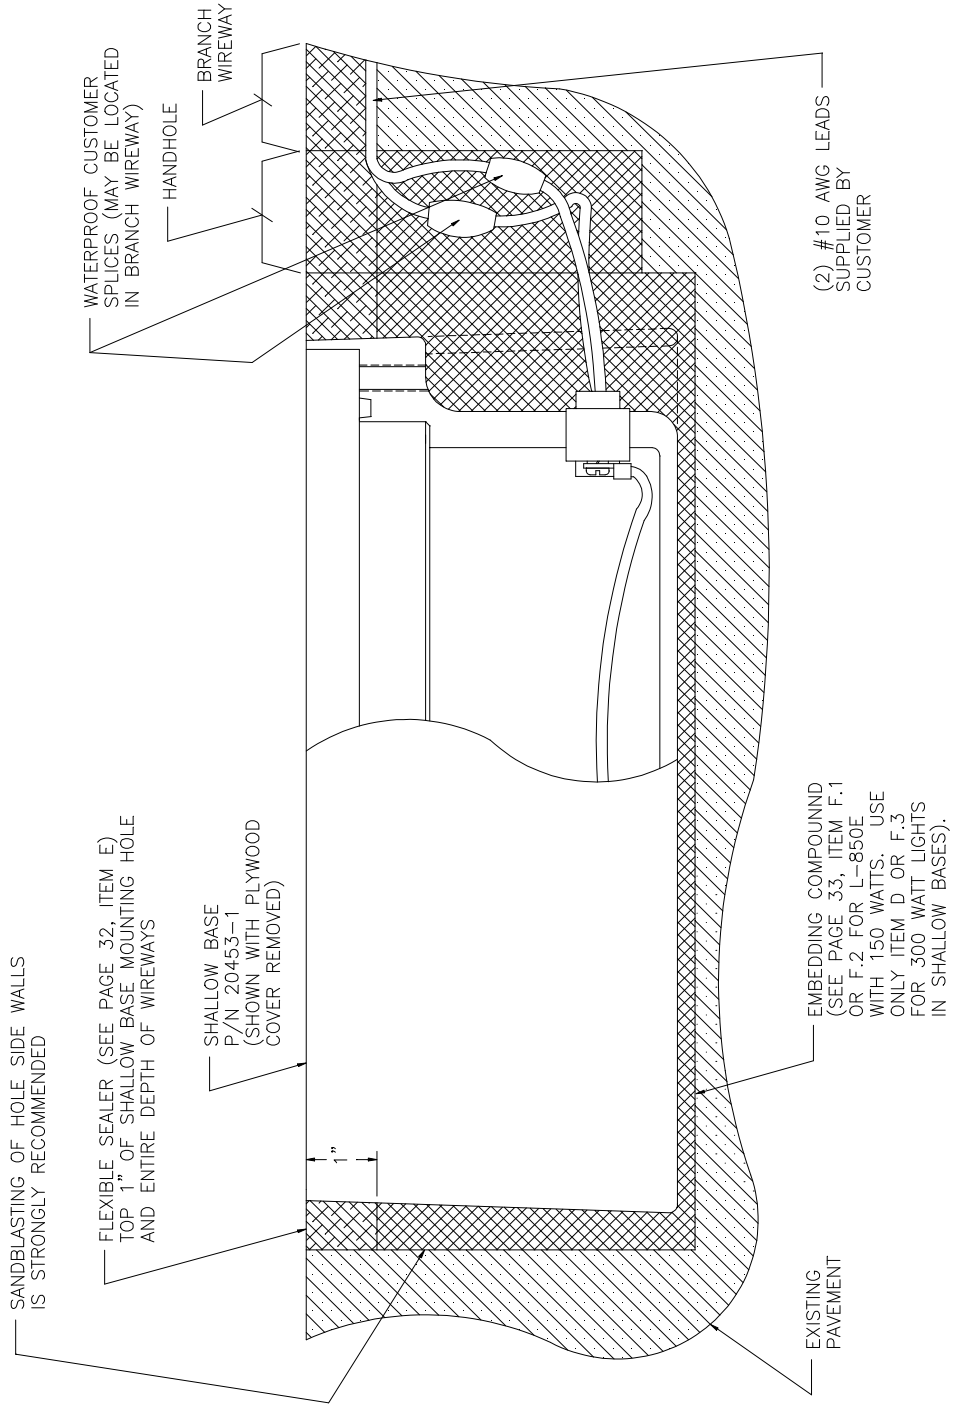

FIGURE 7
Train the leads and power cables carefully so they run along the bottom of the sawed wireways. Small wads of plastic insulating tape may be used to wedge the leads and cables in the bottom of the wireways if necessary. See Figures 7 and 8.
2.2.4 With the jig attached to the Shallow Base Receptacle, completely cover the bottom of the Shallow Base with grout or sealer material. See Figure 7. A sufficient quantity (1 inch thick) of paste material should be placed in the drilled hole to assure a bond between the bottom of the Shallow Base Receptacle and the drilled hole. When the Shallow Base Receptacle is placed in the drilled hole, sealer material should be forced up to the side of the Shallow base at least 1/8 inch. The handle on the jig is used to position and align the Light Assembly (as shown in Figure 8). A weight may be placed on the jig to hold the Shallow Base Receptacle in position. The remainder of the space between the sides of the Shallow Base and the drilled hole should be filled with grout or sealer to a level 3/4 inch below the pavement surface as shown in Figure 7. The jig should be left in place until the grout or sealer reaches its initial set. If any voids are present around the Shallow Base Receptacle after the initial set (remove jig for complete visibility), they should be filled and all excess material removed. Install flexible (rubber) sealer, see section E around the top 1 inch of the shallow base. Be sure to allow sufficient set time. Follow manufacturers instructions.